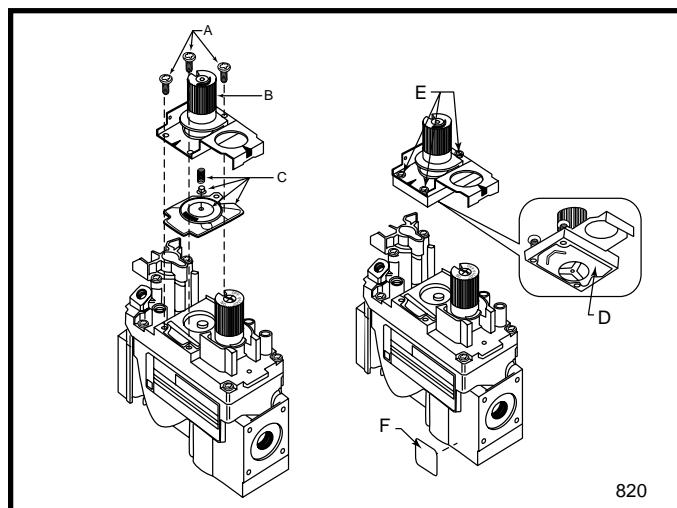

Fig. 49 Nova SIT820 Gas Valve.
9. SIT 820 NOVA Gas Control Valve (Fig. 49)
- a. Using a Torx T20 or slotted screwdriver, remove and save the three pressure regulator mounting screws (A), pressure regulator tower (B) and diaphragm (C).
- b. Ensure the rubber gasket (D) is properly positioned and install the new HI/LO pressure regulator to the valve using the new screws (E) supplied with the kit. Tighten screws securely. (Reference torque - 25 in.LB)
- c. Install the enclosed identification label (F) to the valve housing where it can be easily seen.